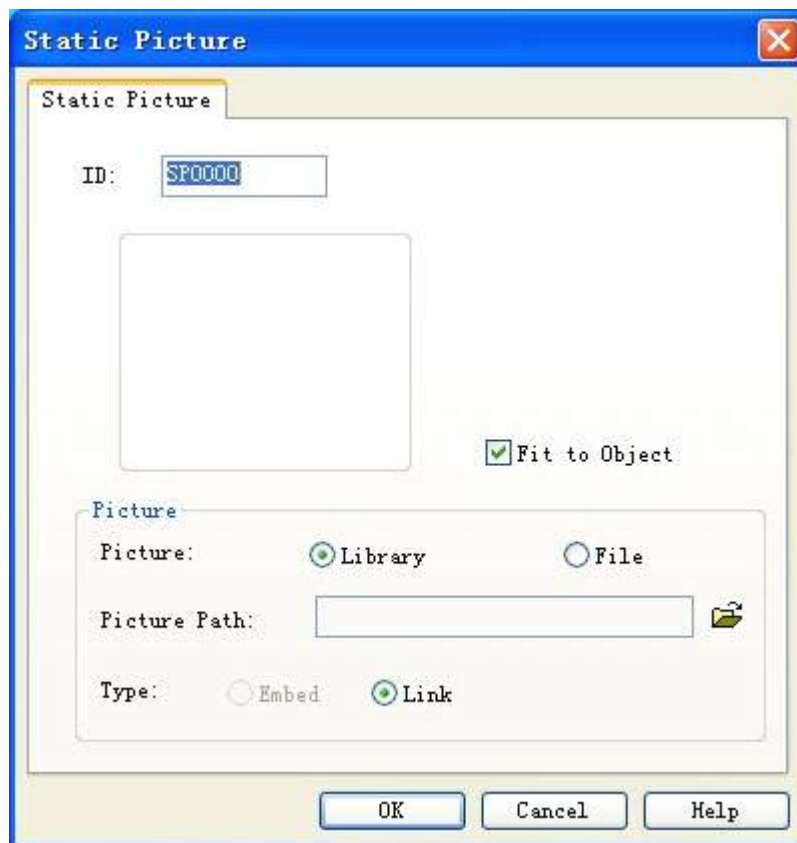

Figure 4-87: Static Picture dialog
1. Click Static Picture icon in the tool bar, and a dialog as shown in Figure 4-87 will appear.